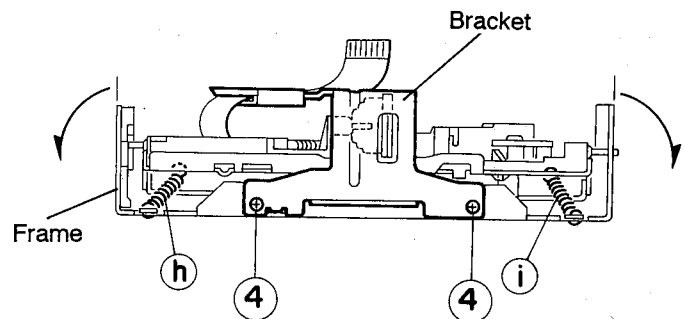

Fig. 2-16
1. Remove the two screws ④ retaining the bracket for fixing the damper (See Fig. 2-16).